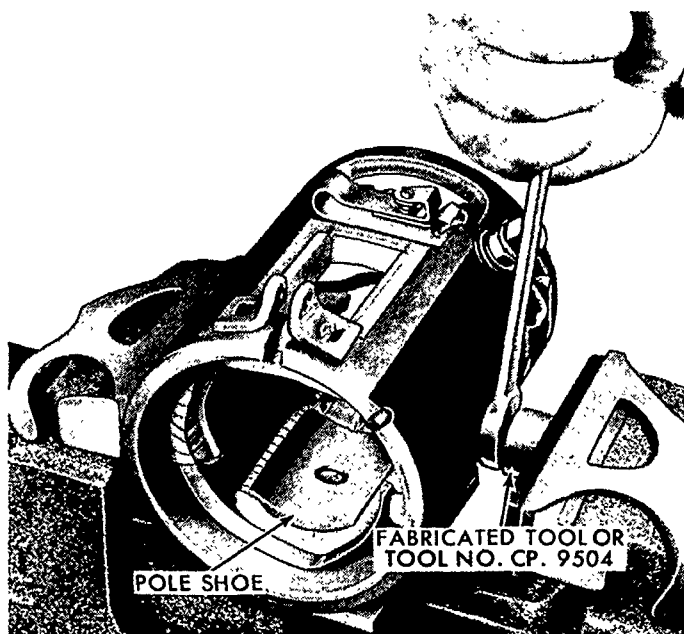

Figure 47
5. Remove the pole shoe screws following the method illustrated in Figure 47. The highly-torqued screws require the use of a press to keep the tool engaged.
12. Install the pole shoes retaining screws, Figure 47. While tightening the screws, tap the starting motor frame with a soft-faced hammer to align and set the pole shoes. Once installed, stake the screws to prevent them from loosening.